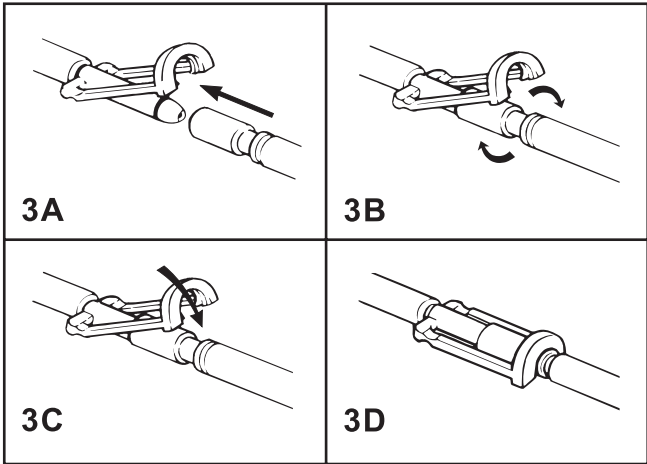

Figure 3A–3D—Clik-Tite® Connectors
1. Insert male fittings into female fittings with a twisting motion (figs. 3A and 3B).